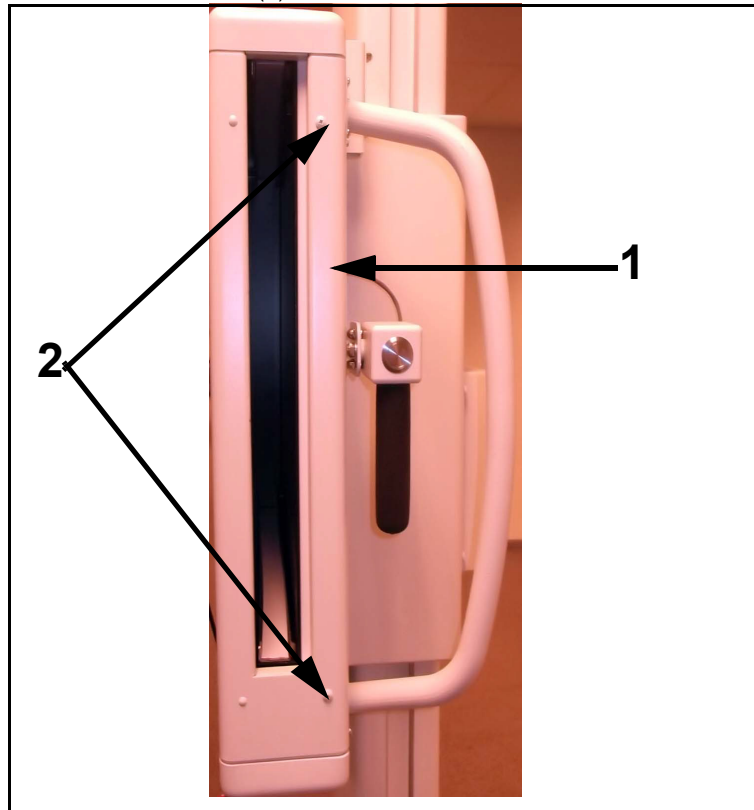

Figure E-21. Side Cover Screws
- 23** Reattach the right side cover (1 in Figure E-21) with two right side cover screws (2).